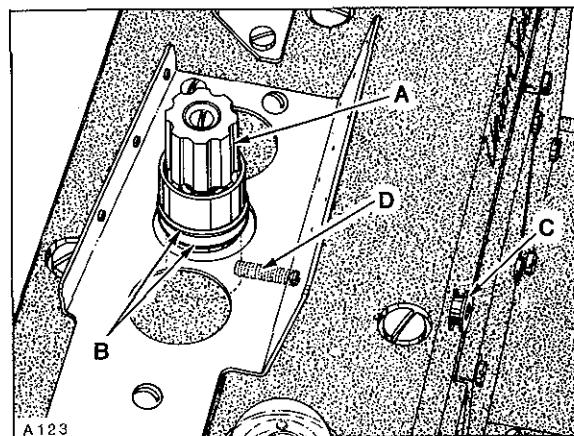

Fig. 23
Needle thread tension assembly (A, Fig. 23) is set correctly when the tension discs (B) start to release as the presser foot is raised to within $1/8$ inch (3.2mm) of the end of its travel and completely released when presser foot has reached its highest position.